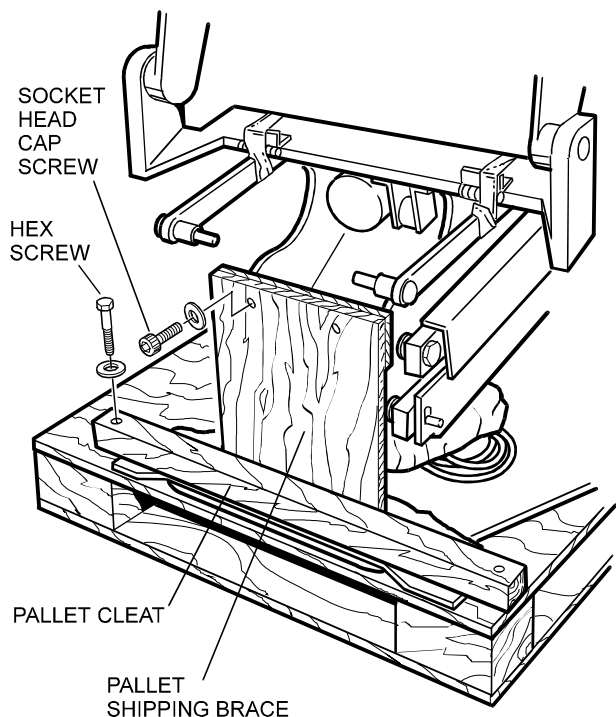

Figure 2
2. Locate the two socket head cap screws and washers that secure the back of the chair to the pallet brace (see Figure 2). Using a 5/16-inch allen wrench, remove the two screws and washers.
3. Locate the two hex screws and two washers that secure the pallet cleat to the pallet, as shown in Figure 2. Using an adjustable wrench, remove the two screws and washers. Remove and discard pallet brace and cleat.